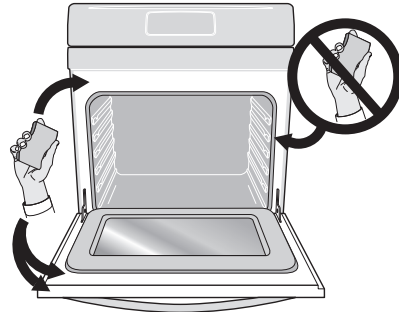

Figure 34: Clean around the oven door gasket
9. Wipe oven cavity and bottom. Do not clean oven door gasket (Figure 34). Avoid leaning or resting on the oven door glass while cleaning cavity.